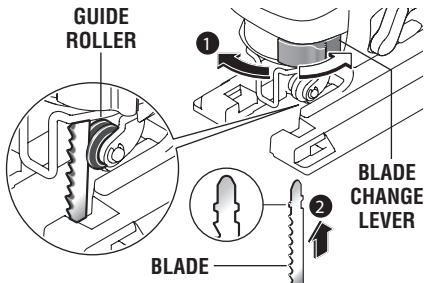

FIG. 2a
3. Insert the saw blade (teeth in cutting direction) until it the "T" part of the blade shank is completely inserted in to the blade clamp. (When inserting the saw blade, the back of the blade must rest in the groove of the guide roller) (Fig. 2a).